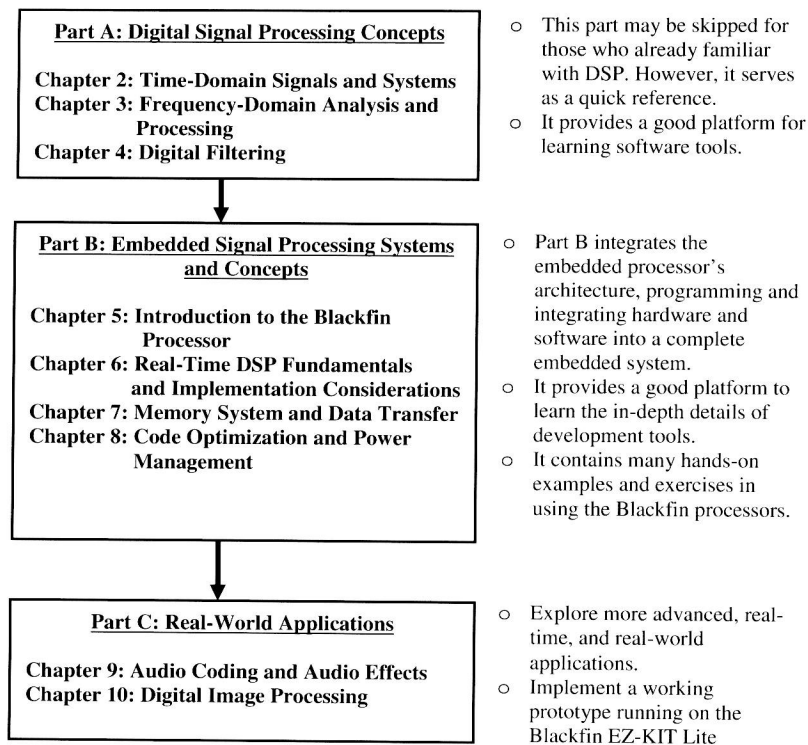

Figure 1 Summary of the book: contents and how to use them
A summary of these three parts of the book is illustrated in Figure 1. It shows three components: (A) DSP concepts, (B) embedded processor architecture and real-time DSP considerations, and (C) real-life applications: a simple A-B-C